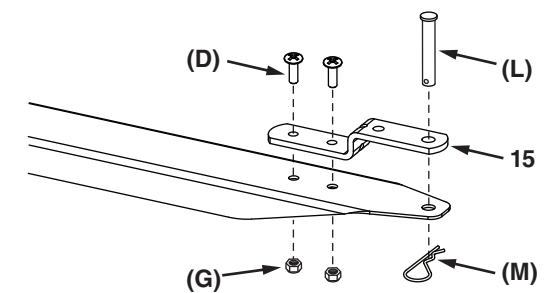

Figure 20
**STEP 20 (SEE FIGURE 20):** Attach the hitch bracket (15) to the draw bar tongue using two 5/16" x 3/4" truss head bolts (D) and 5/16" nylock nuts (G). Install the hitch pin (L) through the holes in the hitch bracket (L) and the draw bar tongue and secure with a 1/8" hair cotter pin (M).